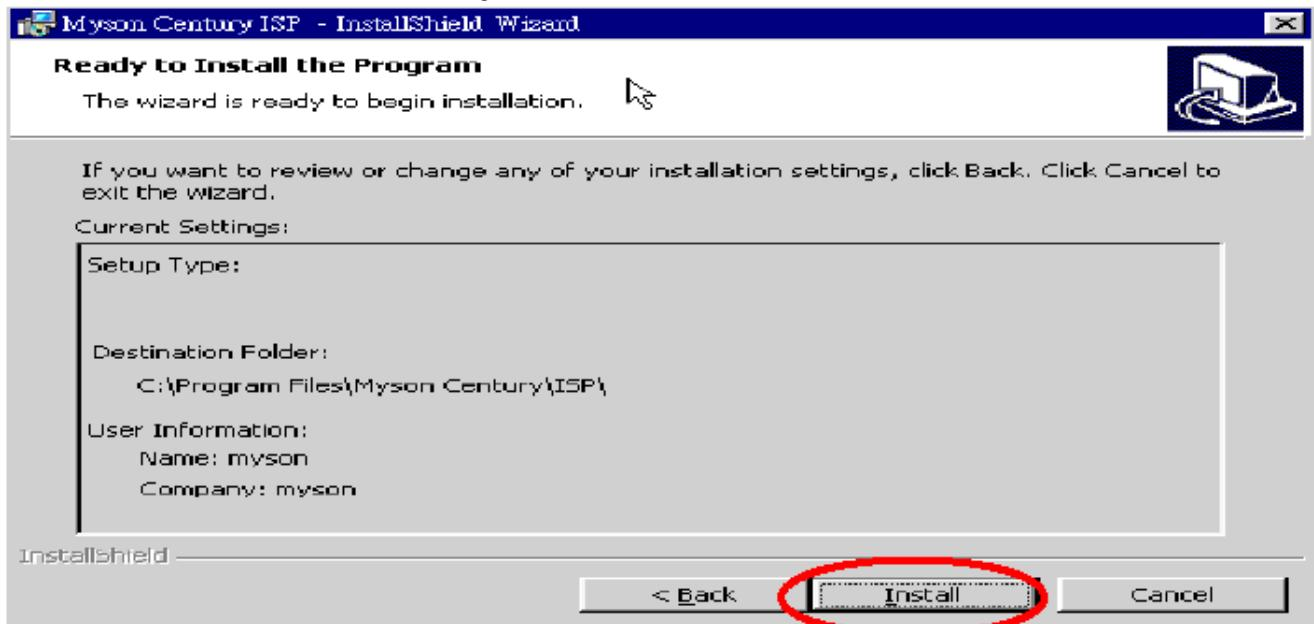

Fig 2.5
2.5 Press " Install " button to continue, see Fig 2.5